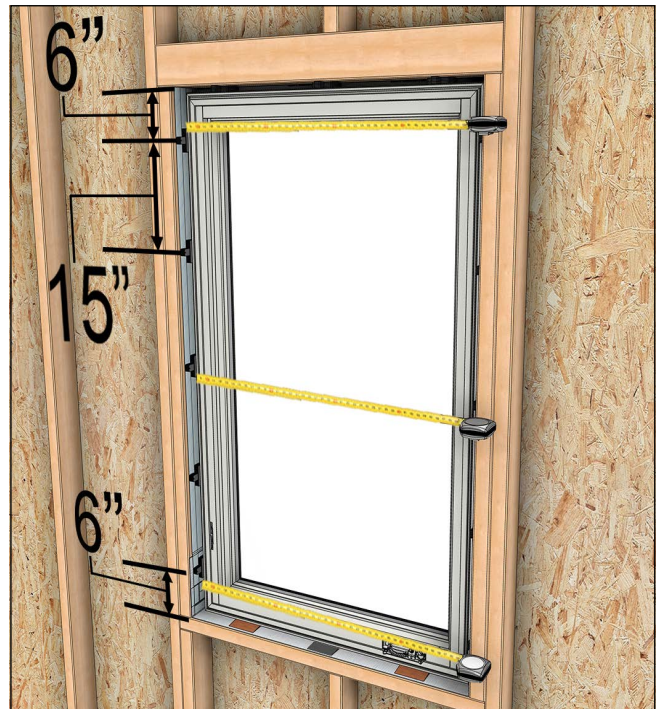

Figure 17
6. Complete fastening and shimming at the spacing shown and at every screw location if applicable. Measure at head jamb, center of unit, and sill to make sure all dimensions are equal within 1/16". If they are not, adjust the shims accordingly. See Figure 17.